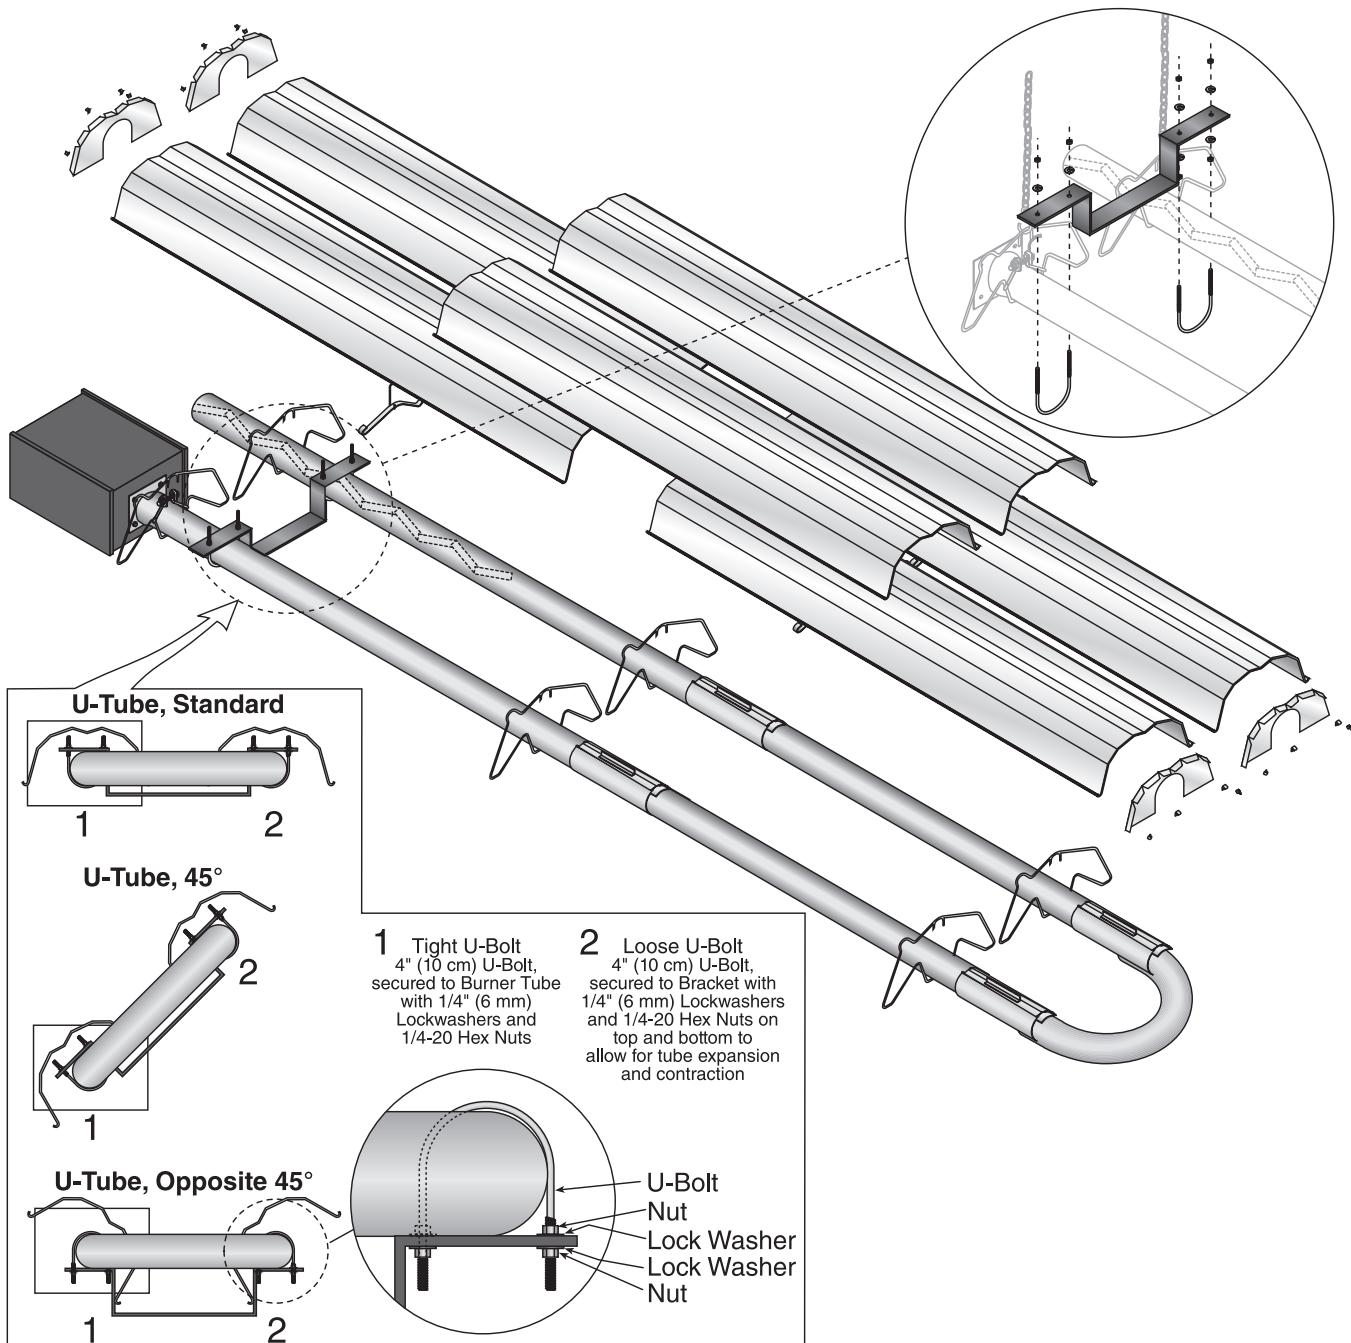

**Figure 10. Installation of Suspension Bracket with Clamp**
2. Install suspension bracket with clamp on burner tube as shown in Figure 10. Tighten clamp using bolt, flat washer, and hex nut torqued to 120 inch-pounds. For model VZH, ensure that this assembly is also used as second bracket downstream from burner cabinet.